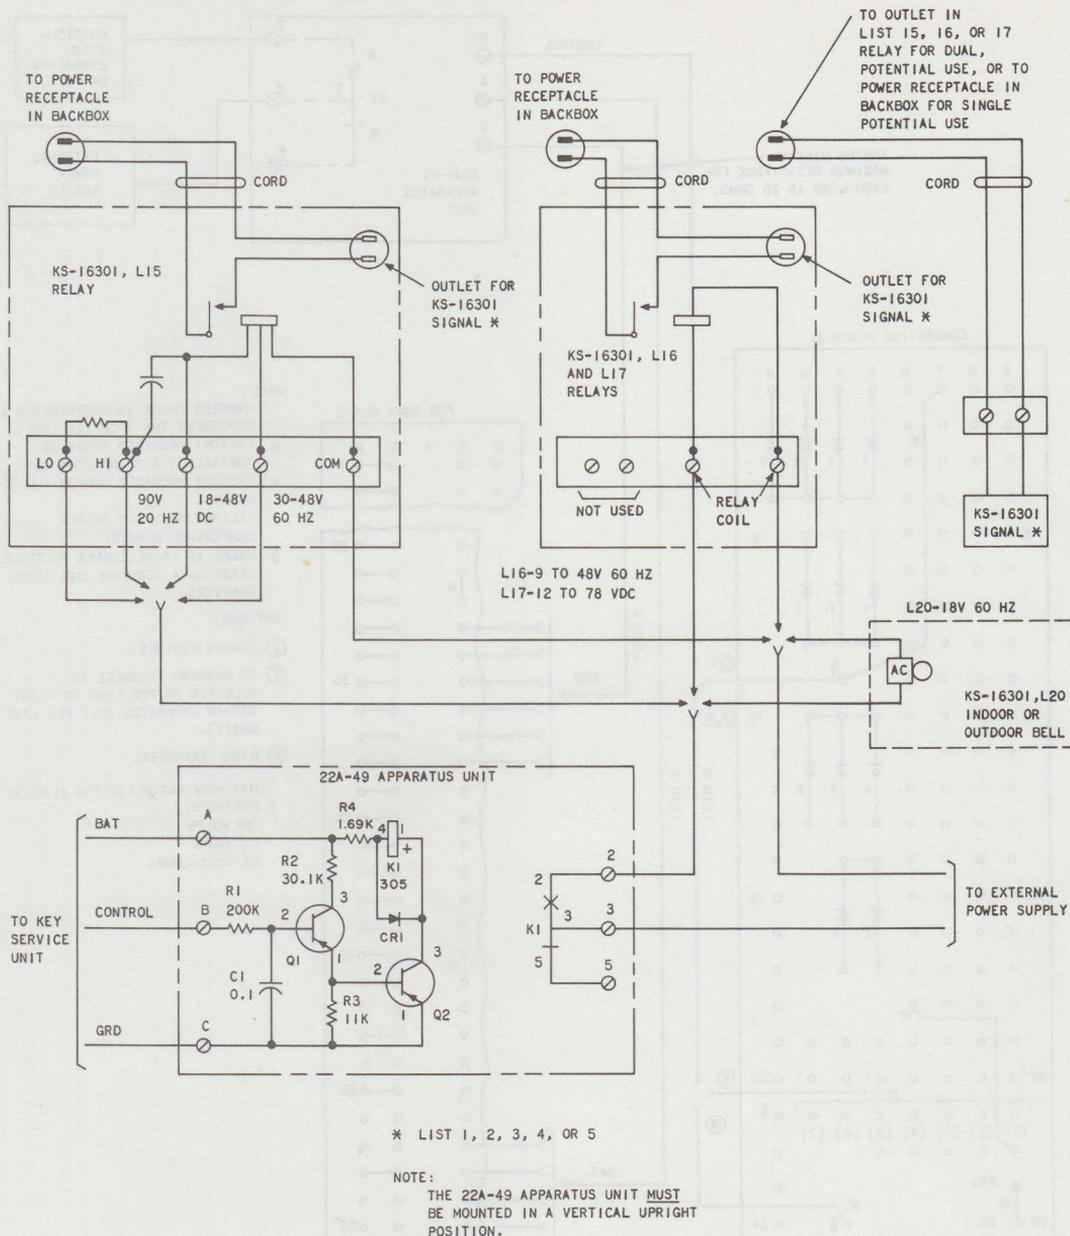

Fig. 28—Connections for 22A-49 Apparatus Unit and KS-16301 Type Signals
**4.30** The KS-16301 type auxiliary signals or ringers are recommended as external signaling devices for use with the 7A Communication System. See Fig. 28 for connections. Refer to Section 463-110-100 for identification, installation, operation, maintenance, and ordering information on the KS-16301 type signals.